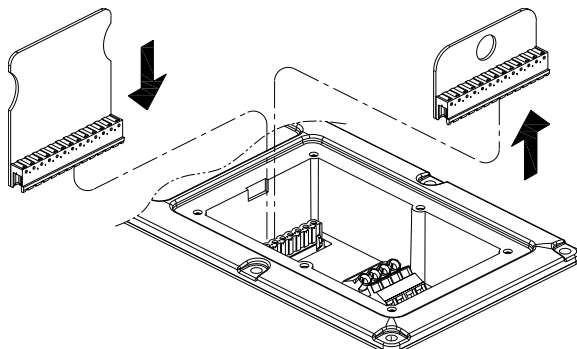

Figure 1:
2. Carefully remove the switch card and set it aside. Plug the Access Card onto the header in place of the switch card. Note that the Access Card, unlike the switch card, will only fit in one position centered on the input cup (See Figure 1).